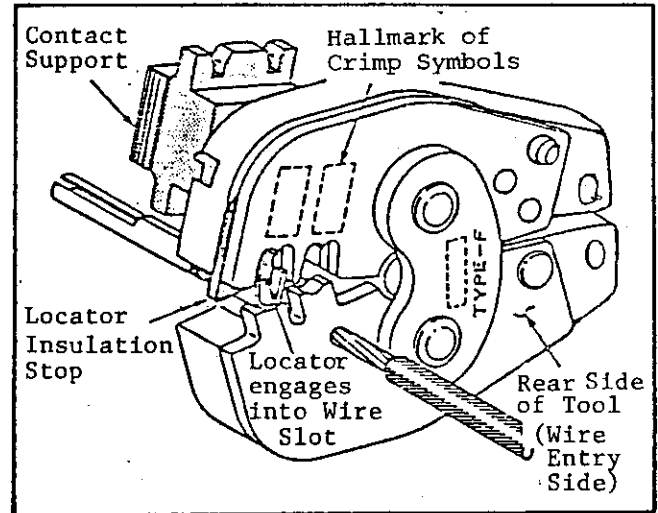

Fig. 2
- 3) Hold the contact with crimping dies in position where contact's locator slot can be inserted into locator-insulation stop, as shown in Fig. 2